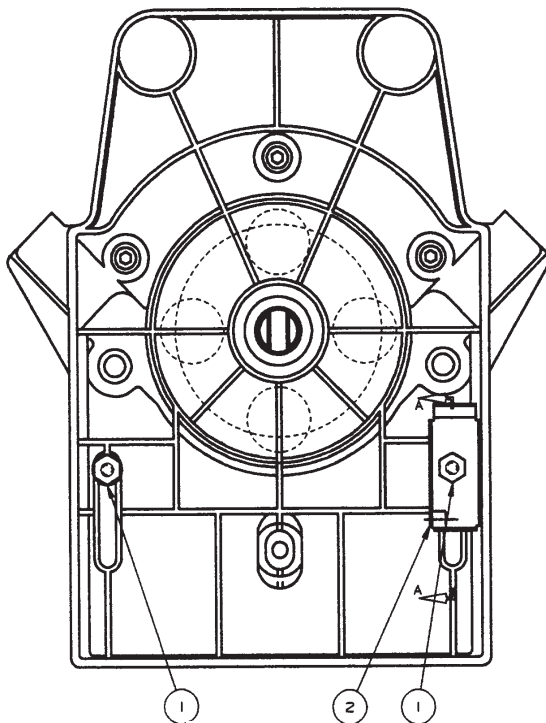

Figure 9-14
2. Remove the two nuts (figure 9-14, 1) and remove old magnet (2) located on the inside of the slide assembly.